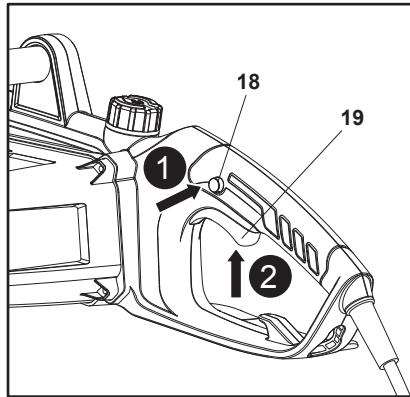

Fig. 16
1. Press the lock-off button (18) and hold it in position (Fig. 16, step 1).
2. Squeeze the on/off switch (19) to switch the product on (Fig. 16, step 2). Release the lock-off button (18) afterward.
3. Release the on/off switch (19) to switch the product off.